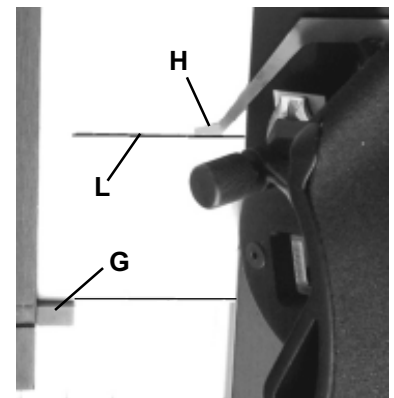

Figure 7
5. Make the cut, stopping when the **Sight Gage (H)** reaches the lower pencil line (L). This is the end of cut and is shown in Figure 7.